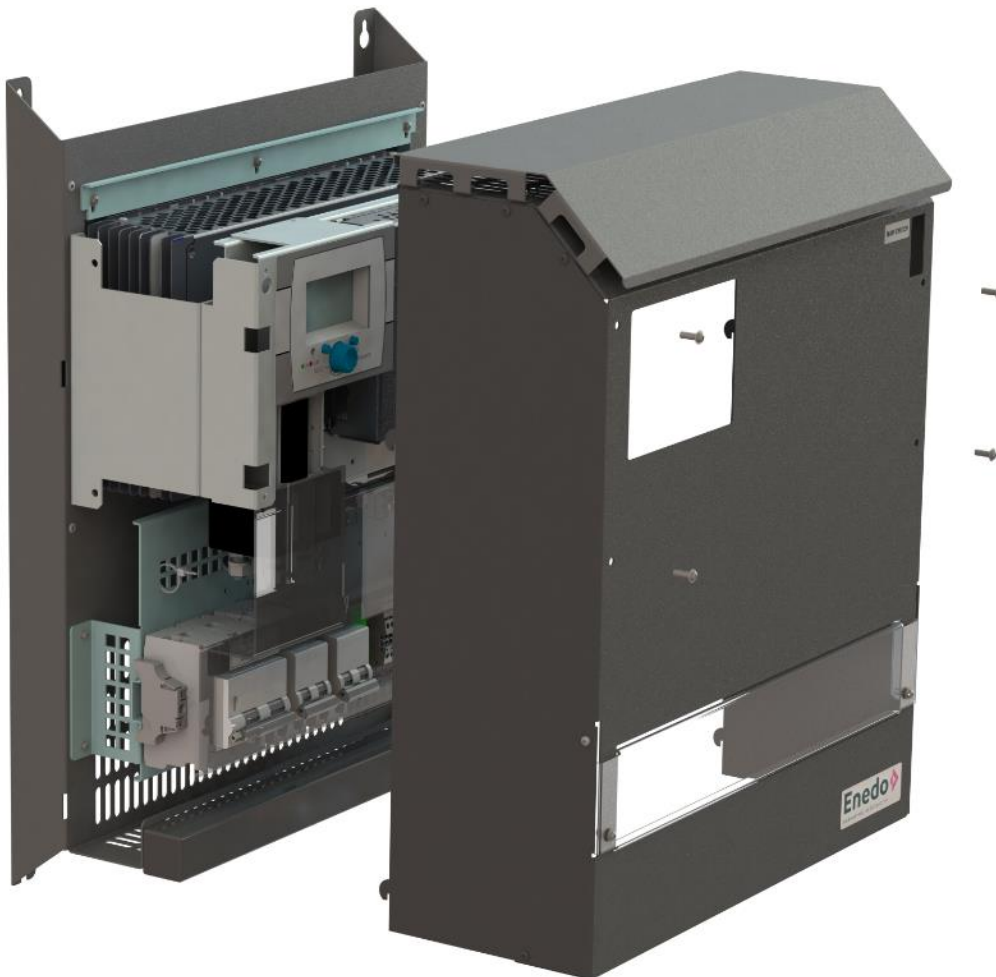

Figure 2. Mechanical installation of the system cover.
- Unscrew the four screws on the front cover (*figure 2*).
- Install the system cover on after electrical installation (*figure 2*).